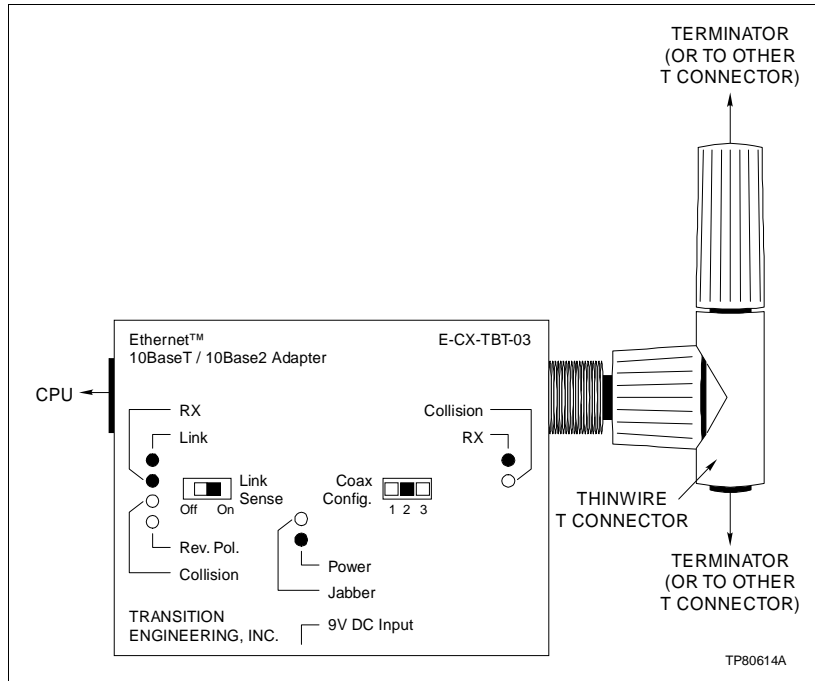

Figure 3-24. 10-Base T to Thinwire Adapter
- The connector on the back of the CPU is 10-Base T and therefore requires a 10-Base T thinwire adapter. Refer to Figure 3-24 for switch settings for the adapter.